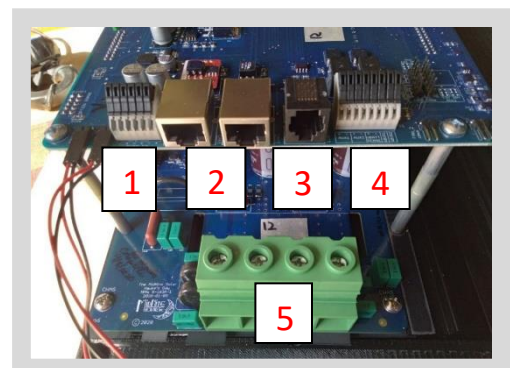

Figure 2
HAWKE'S BAY CONNECTIONS (Figure 2)
1. Connect the phone jack of the BTS into the BTS receptacle on the Hawke's Bay control board, as marked by #3 in **Figure 2**.
1. Connect the WBJr's purple wire to the terminal block, #4, as shown in **Figure 2**.